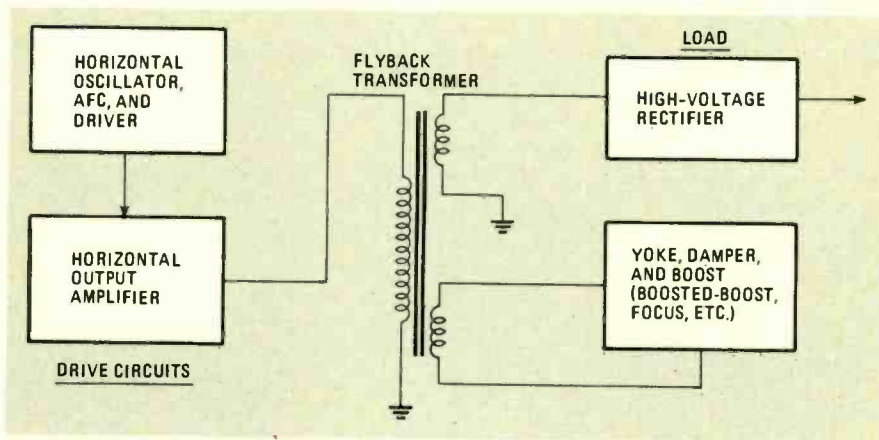

FIG. 1
YOU'VE OFTEN HEARD ME SAY, "I GET BY with a little help from my friends." Never was that statement more true than now! I've received a letter from a (very smart) reader, John P. Chalupski (MD), who has worked out a handy procedure for testing flyback transformers—the heart of the horizontal deflection circuit. (See Fig. 1.)